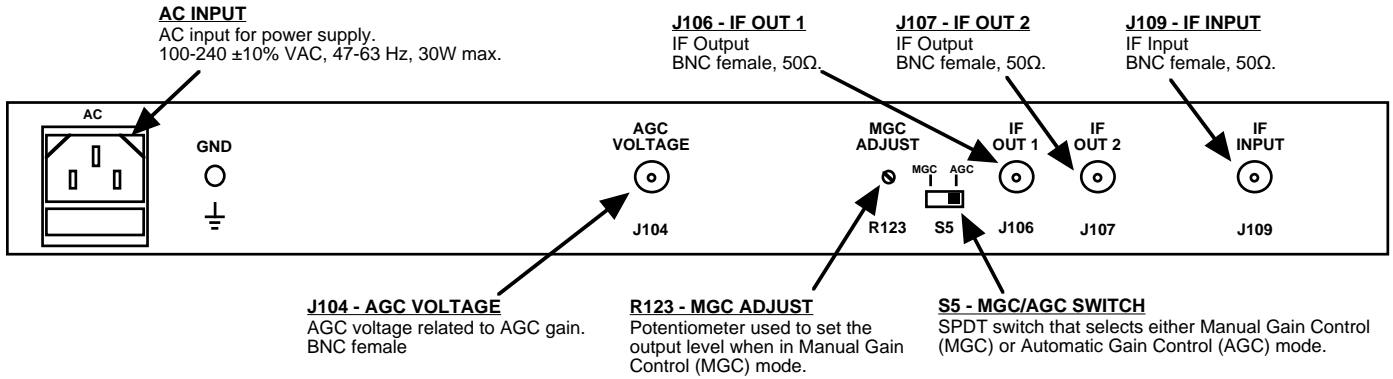
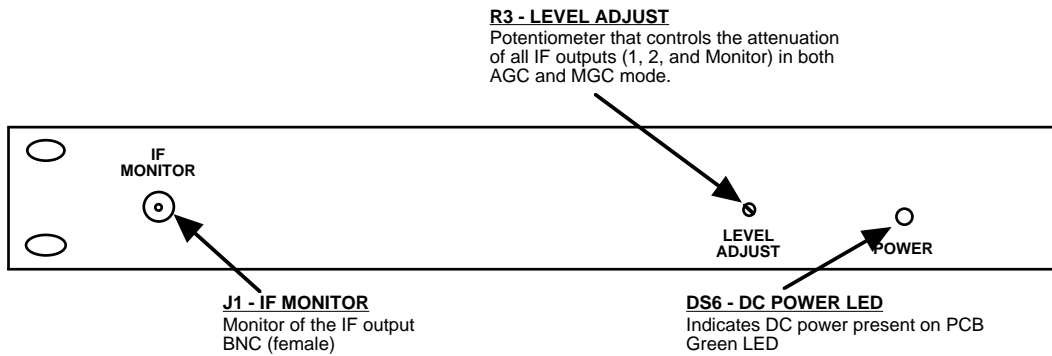

FIGURE 2.2 1200-08 Rear Panel I/Os and Control
FIGURE 2.3 1200-08 Front Panel Controls and Indicators
Figure 2.2 shows the input, output, and control connectors on the rear panel.
Figure 2.3 shows the front panel outputs, controls and indicators.
2. Connect 100-240 \pm 10% VAC, 47 - 63 Hz to AC IN on the back panel (Figure 2.2).
3. Be sure the POWER LED, DS6, is on (Figure 2.3).
4. Connect a -35 to 0 dBm, 50-200 MHz signal to IF INPUT, J109 (Figure 2.2).
5. Select Manual Gain Control (MGC) or Automatic Gain Control using switch, S5 (Figure 2.2).
6. Connect IF OUT 1 and IF OUT 2 (Figure 2.2) to the desired equipment, and check for proper level using IF MONITOR on the front panel (Figure 2.3).
7. If in MGC mode adjust rear panel potentiometer R123 for the desired gain (Figure 2.2).
8. Adjust output to desired level using front panel attenuator pot, R3 (Figure 2.3). Clockwise rotation provides increased output level.